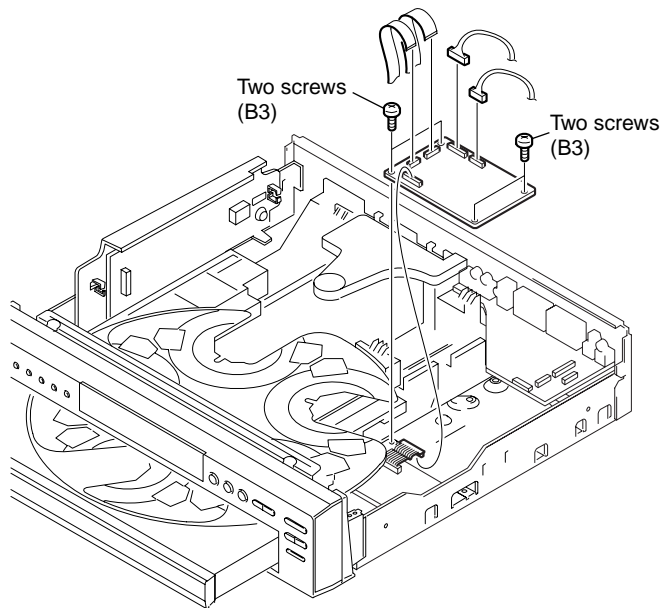

Fig. 10
- 4) Set the board in the place where the MB-110 board is removed, as shown in Fig. 10.